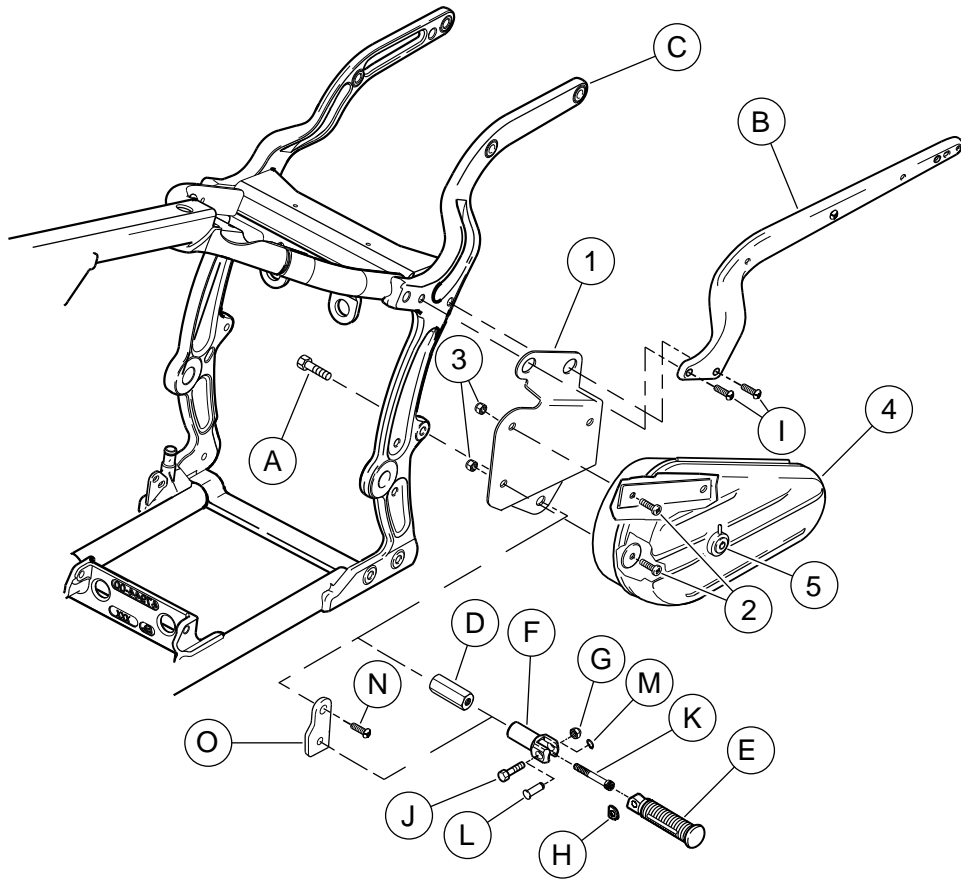

Figure 1. Service Parts: Left Side Tool Box Kit
See Figure 1 and Table 1.
- See Figure 1. Attach the toolbox (4) to the toolbox mounting bracket (1) using the three pan head screws (2) and Nylock nuts (3) from the kit.
- Remove the two button head screws (I) which secure left rear fender support (B) to motorcycle frame (C). Retain screws for reassembly.
- For FLSTN models:** Remove button head screw (N) and left footrest bracket (O) with attached footrest support (F) and footrest (E).
- For all other models:** Remove the locknut (G), hex head bolt (J), spring washer (H) and footpeg (E). Remove the socket head cap screw (K) that secures the footrest support (F) to the frame (C).